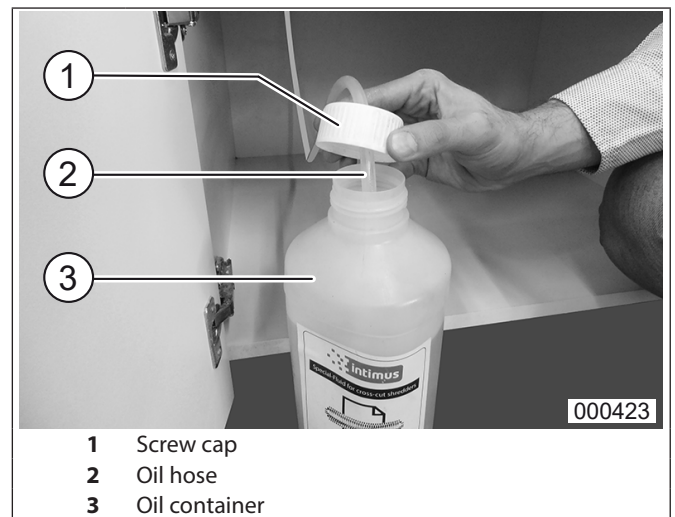

Fig. 3 Close the oil container with the cap
4. Feed the oil hose (Fig. 3/2) into the oil container (Fig. 3/3) until it reaches the bottom of the container
5. Close the container with the screw cap (Fig. 3/1) that is connected to the oil hose.